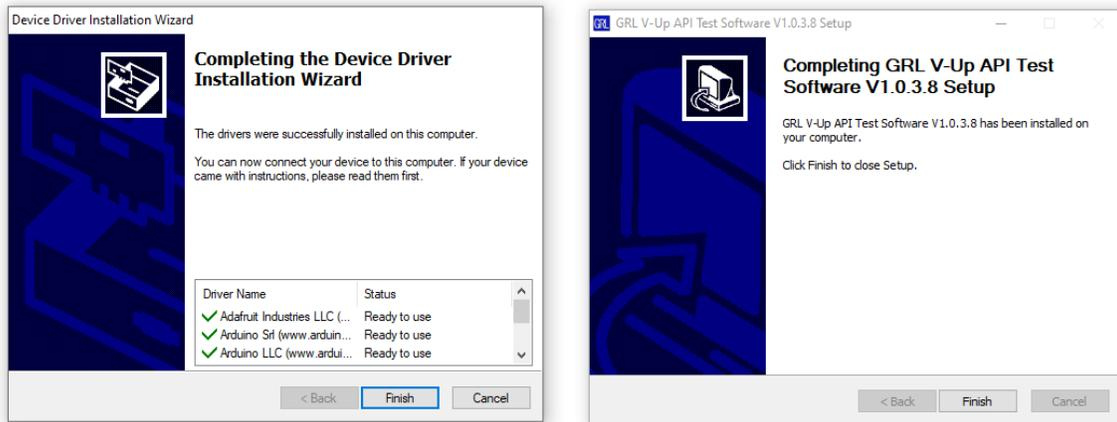

Figure 13. GRL-V-UP API Test Software Installation Completed
9. Once the driver installation has completed, click on the “Finish” buttons to complete the GRL-V-UP API Test software installation as shown in Figure 13.